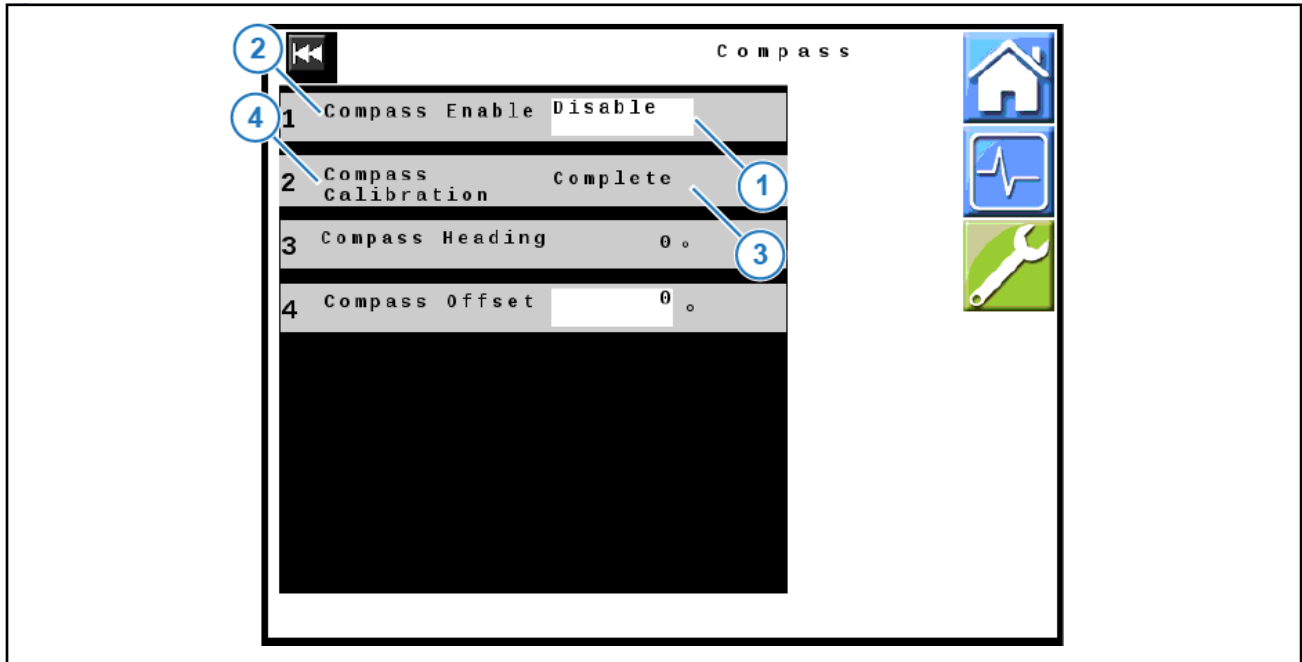

Figure 26: Compass Screen
2. Select the box (Figure 26, Item 1) next to Compass Enable (Figure 26, Item 2).
4. Select the box (Figure 26, Item 3) next to Compass Calibration (Figure 26, Item 4).